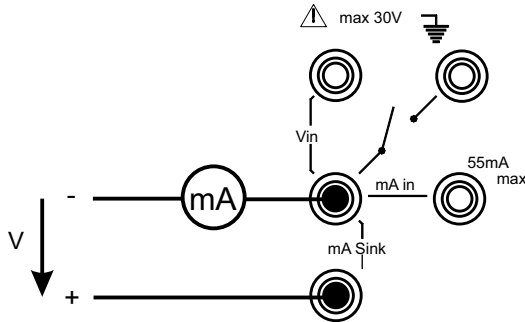

Figure 8-4: 24 mA Current Output Range Calibration Circuit
8. Connect an external voltage source shown in Figure 8-4 on page 49, press the **OUTPUT** key, select **mA Value**:
10. Repeat (9) for all output values given in Table 8-5 on page 50.